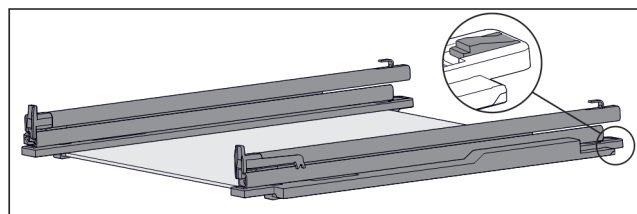

Fig. 219 Glass shelf with rails and retaining parts
- Press down retaining part at the rear (see *Fig. 219*) and at the same time push the rail back.